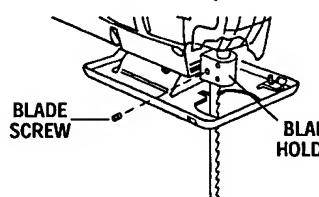

FIG. 5
1. For Auto-Scrolling insert the blade to full depth, with blade in the rear position of blade holder as shown in (Fig. 5).
Note: On auto-scrolling models, the blade must be the REAR position of the blade holder as shown in Fig. 5, in order for the slot to surround the blade.